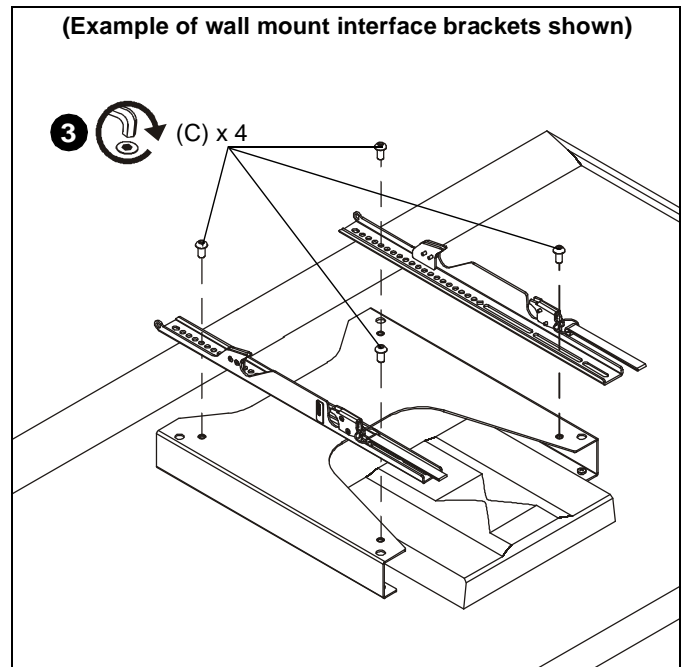

Figure 2
3. Use four M8 x 16mm button head cap screws (C) to secure two wall mount interface brackets to FHB bracket (A). (See Figure 2)